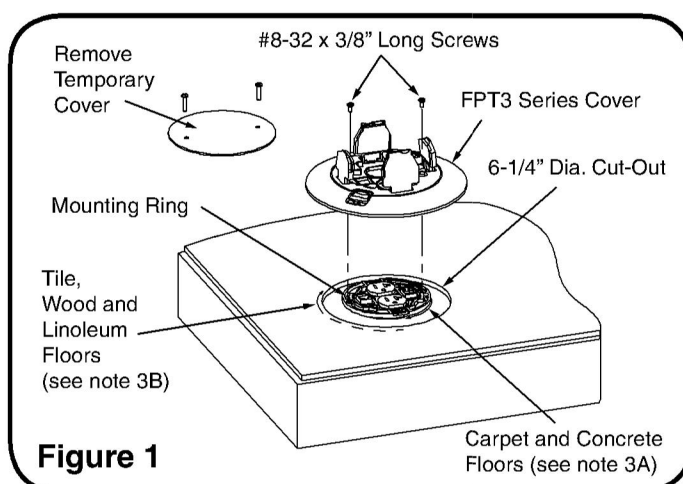

Figure 1
4. Install FPT3 Moptite® cover using the two #8-32 X 3/8" long screws furnished with cover (see Figure 1).